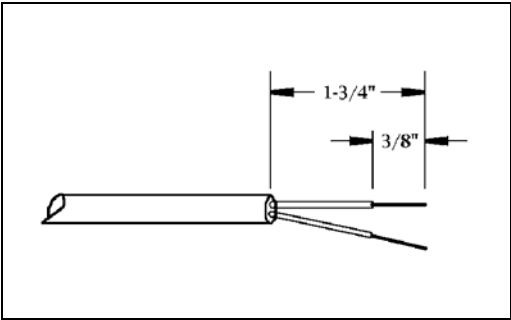

Figure 1: Recommended strip lengths
4. Strip the insulation from the end of a float switch cord. See figure 1 for the recommended lengths.